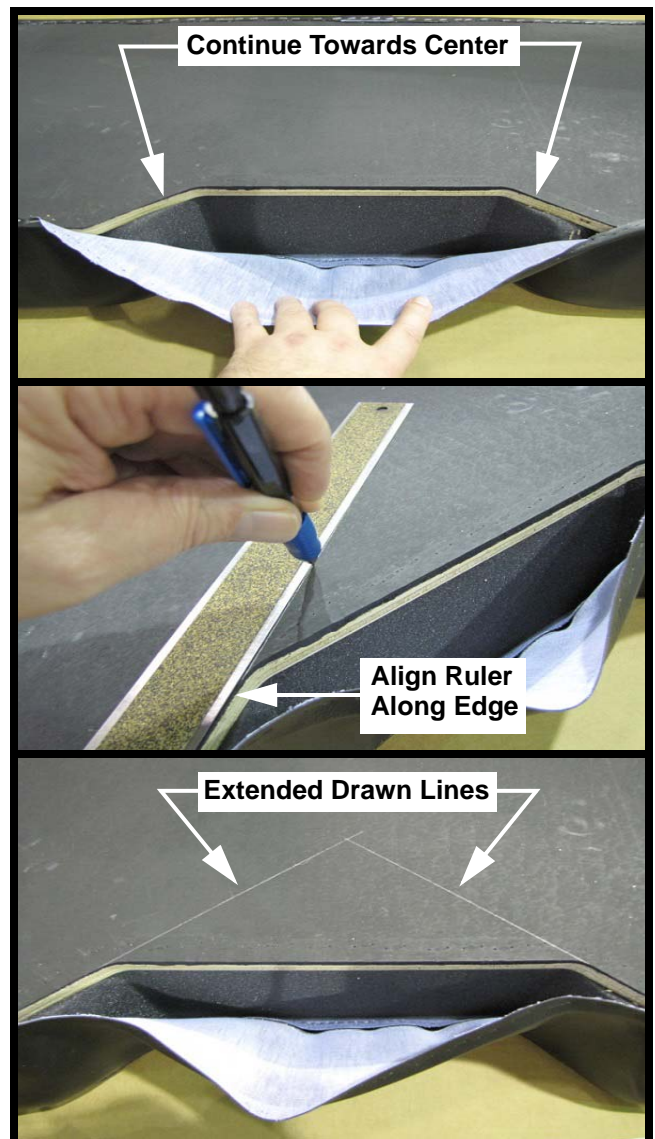

FIGURE 6
8. Use a 12" ruler and draw a line extending from each of the points shown towards the center of the seat bottom. See Figure 6.